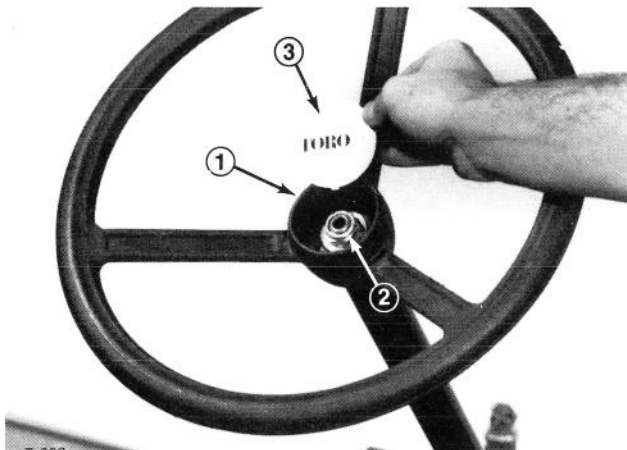

Figure 1
2. Secure steering wheel in place with jam nut (Fig. 1 and tighten it to 70 ft-lb (95 N-m).
3. Insert tab of steering cap into cutout in steering wheel hub (Fig. 1). Press cap into groove in hub.